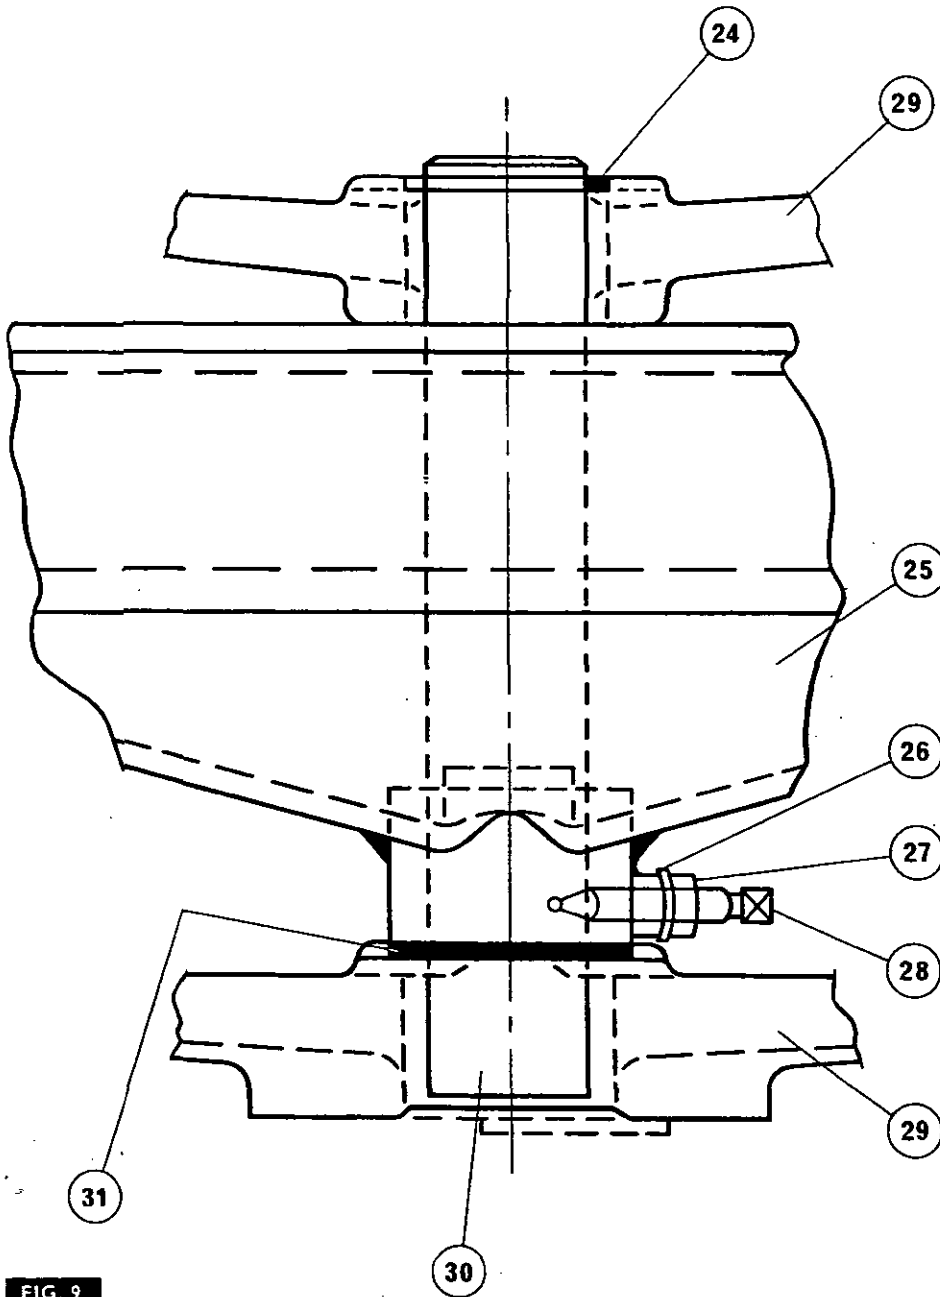

FIG. 9
5. Remove the bolt (2) nut and washers securing each power steering ram bracket to the centre beam (power steering tractors only).
**NOTE - DO NOT REMOVE THE BOLT (5) SECURING EACH RAM BRACKET TO THE OUTER AXLE ARMS.**
7. Fig. 9. Remove the circlip (24), peg bolt (28), nut (27) and washer (26) securing the pivot pin (30).
8. Fit a  $\frac{7}{16}$  UNC bolt into the front of the pivot pin (30).
9. With one operator each side supporting the centre beam (25), withdraw the pivot pin (30).
10. Lift the centre beam clear of the axle support (29) and remove the shims (31).